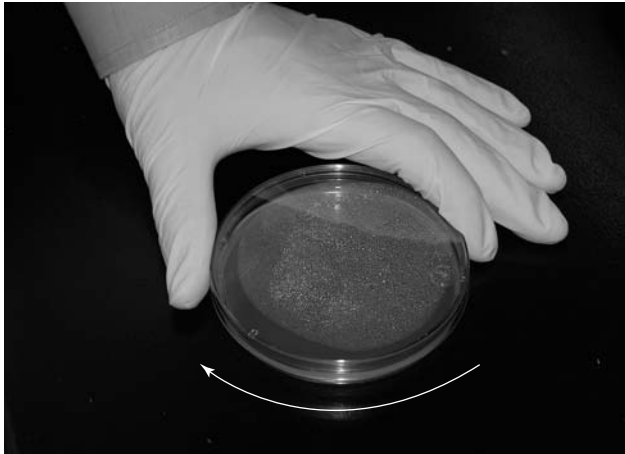

FIG. 8.5. Rotation of melted agar.
10. Immediately, aseptically pour the soft agar onto the surface of the nutrient agar plate correspondingly labeled 10^{-1} . Replace the lid and, without picking up the plate, rotate it gently in a 6- to 8-inch circle on the surface of the table to evenly distribute the agar (Fig. 8.5).